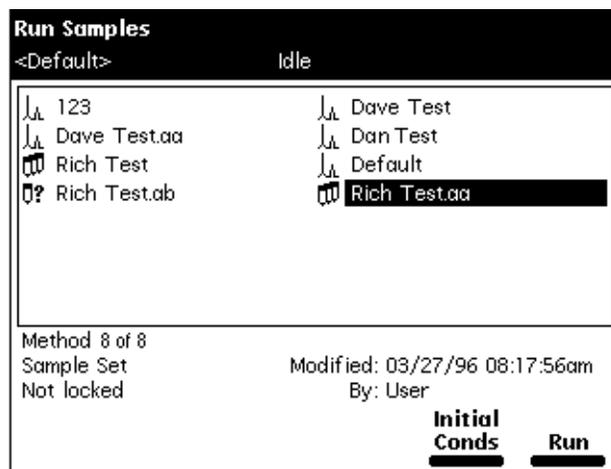

Figure 4-2 Run Samples Screen
1. Press the **Run Samples** screen key in the Main screen (Figure 2-2). The Run Samples screen appears (Figure 4-2). Table 4-3 describes the icons used in the Run Samples screen.
1. Press the **Run Samples** screen key in the Main screen. The Run Samples screen appears (Figure 4-2).
2. Press the **Run Samples** screen key in the Main screen. The Run Samples screen appears (Figure 4-2).